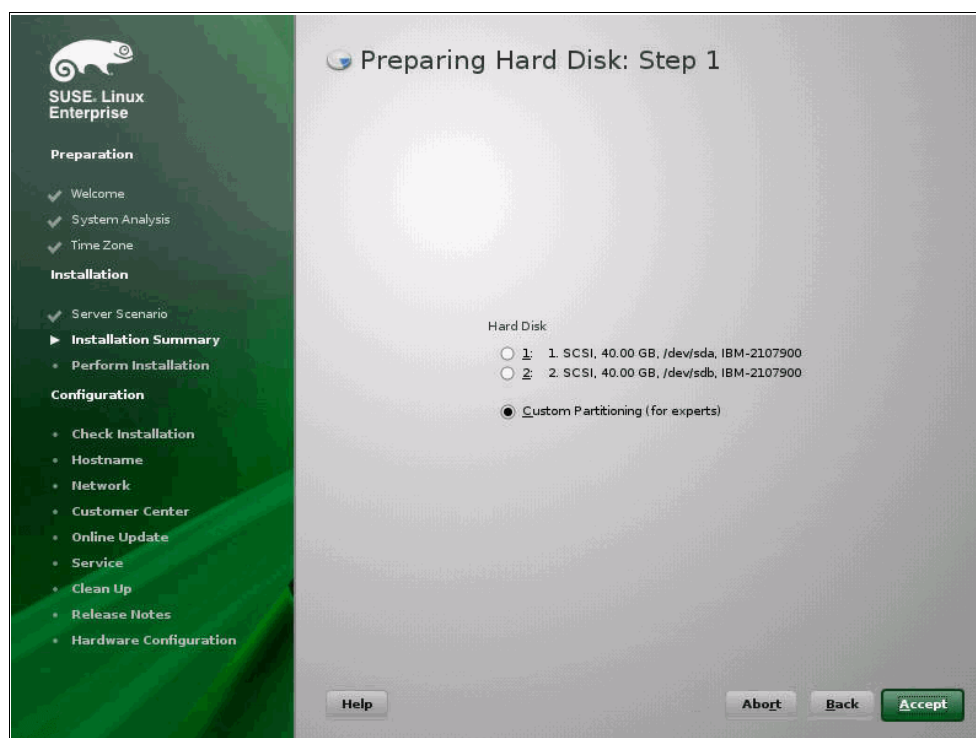

Figure 3-58 Partitioning the LUN for Experts
14. Click **Partitioning** and then **Custom Partitioning**, as shown in Figure 3-58 and click **Accept**.